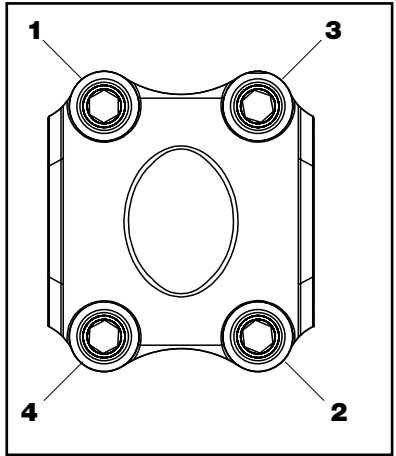
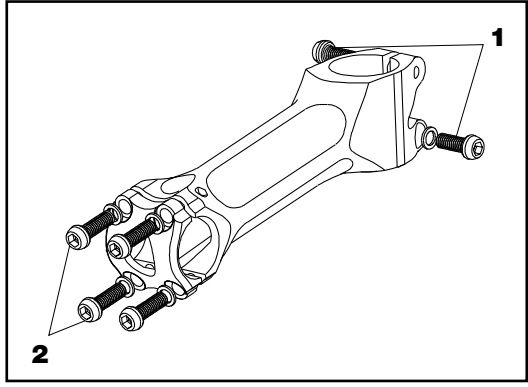

FIG. 1 BOLT ASSEMBLY ORDER
FIG. 2
- Using the 5mm Allen wrench install the two rear clamp M6 socket cap bolts through the M6 flat washers (#1 in Figure 2) and into the threading into the rear clamp. Tighten to a torque of 80in-lbs (9.04 Nm) for each bolt.
- Install the handlebar using the removable front stem cap. Using the 5mm Allen wrench install the four front clamp M6 socket cap bolts through the M6 flat washers (#2 in Figure 2), the front stem cap, and into the threading on the front clamp. Follow the sequence shown in Figure 1 and first tighten these four bolts to a torque of 60 in-lbs (6.77 Nm) for each bolt. Then re-tighten these same four bolts, following the same tightening sequence, to a final torque of 80in-lbs (9.04Nm).